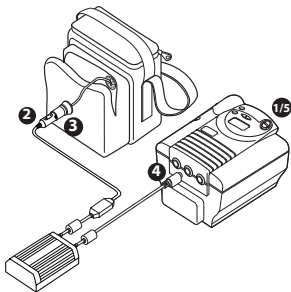

Figure 4: Connecting the DC Power Adapter
2. Connect the Auto Adapter to the input cable end of the DC Power Adapter. See Figure 4.